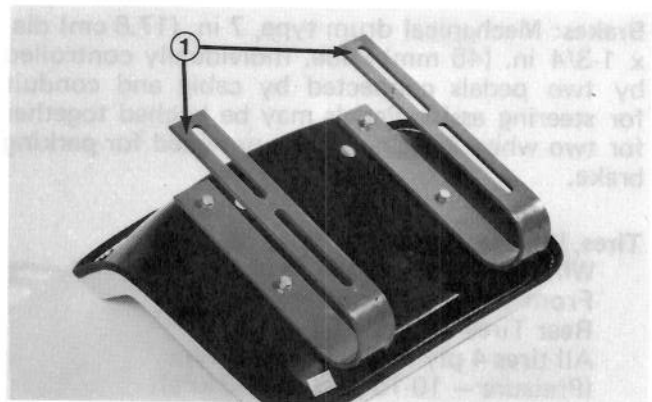

Figure 2
1. Loosely secure seat springs to seat with (4) capscrews and lockwashers (Fig. 2).